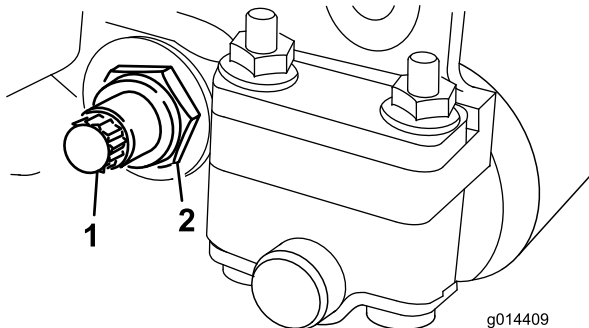

Figure 18
2. Back out the spring tension nut, until the washer is no longer tensioned against the bedbar (Figure 18).
3. On each side of the machine, loosen the jam nut securing the bedbar bolt (Figure 18).